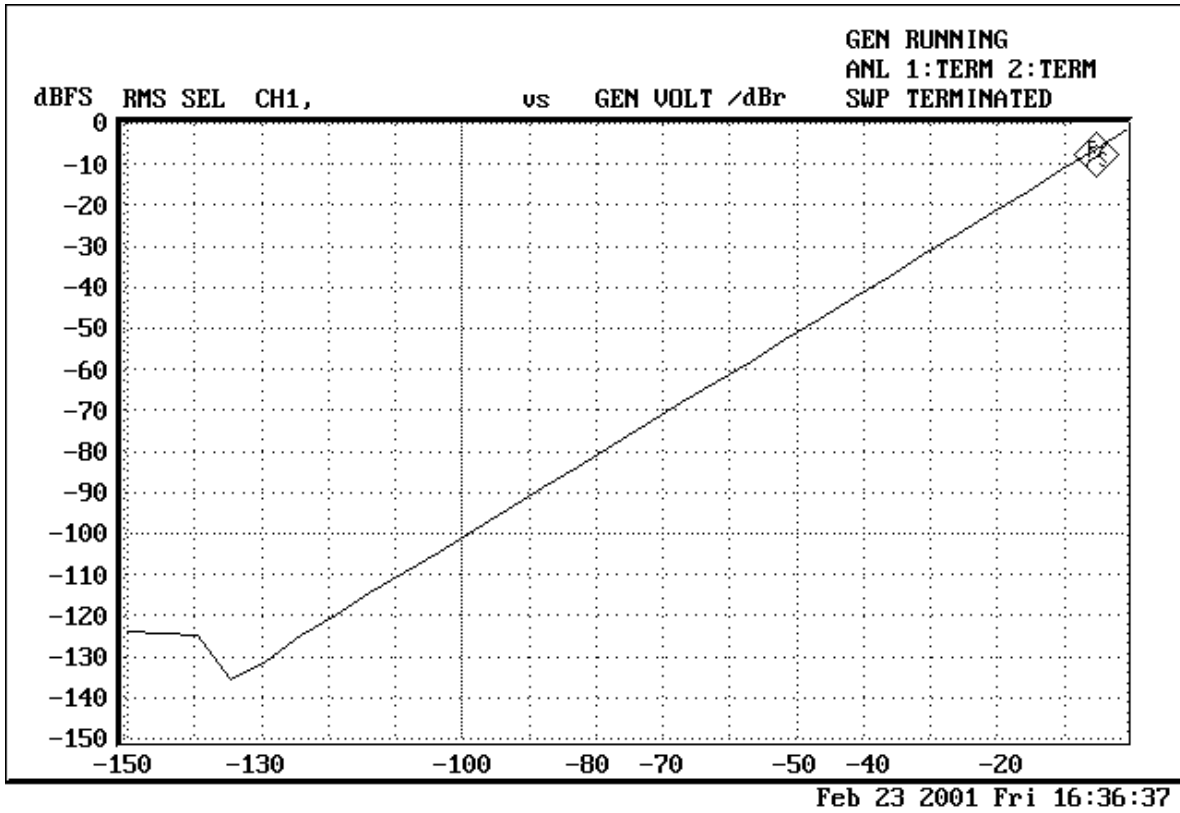

Figure 2-1-6. Linearity (fin=1kHz)
- Figure 2-1-6. Linearity (fin=1kHz)